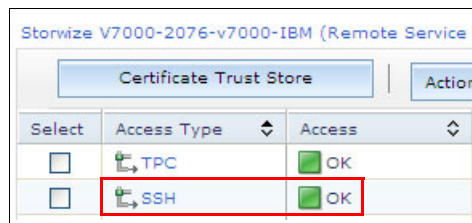

Figure 10-81 Checking the RSAP configuration
5. Check that SSH access is displayed in the Access column, as shown in Figure 10-81.